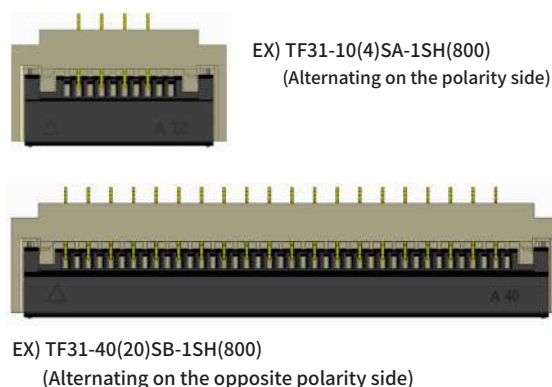

Figure.1
This series offers two different contact pitches of 0.5 and 1.0mm and two heights variations of 1.75 and 2.0mm. These options give engineers the ability to choose the connector that will best fit their design. (Figure. 1)
① **②** **③** **④** **⑤** **⑥** **⑦** **⑧** **⑨**
① Series Name : TF	⑥ Alternating direction : Please refer to Figure 1 on Page 1 No symbol : Standard type(all contacts loaded) A : Alternating contact type(Alternating on the polarity side) B : Alternating contact type(Alternating on the opposite polarity side)
② Series No. : 31	⑦ Contact Pitch : 0.5mm, 1mm
③ Standard Type : Number of contacts Alternating Contact Type : Mold size	⑧ Terminal Type SH : SMT horizontal mounting type
④ Standard Type : No symbol Alternating Contact Type : Number of contacts	⑨ Specification (800) : Partially Gold plated, Emboss tape packaging (3,000pcs/reel) (895) : Partially Gold plated, Emboss tape packaging (500pcs/reel)
⑤ Contact arrangement : Single(pole piece array)